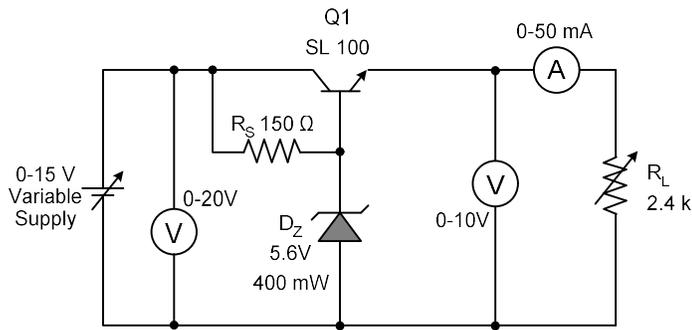

Fig. 1 Circuit diagram of series regulator
1. The circuit is wired as per the circuit diagram shown in fig. 1.
1. The circuit diagram is wired as per the circuit diagram shown in fig. 1.